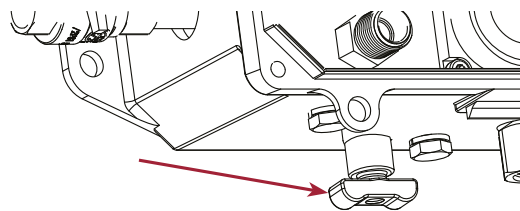

Figure 211: Early TIREMAAX Petcock
- Early TIREMAAX systems have a petcock either underneath the controller box or at the outlet going to the tyres. Refer Figure 211.